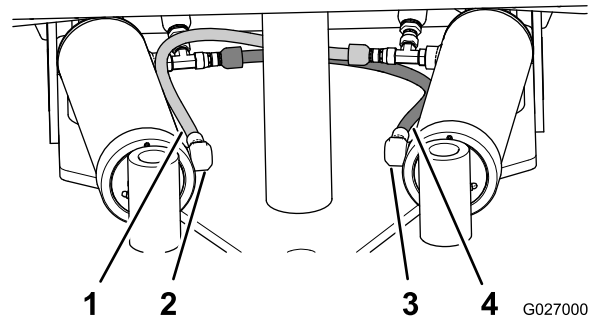

Figure 17
6. Connect the free end of the cross-connect hose (1/4 x 20 inch) from the T-fitting in the left pivot cylinder to the retract port of the right pivot cylinder (Figure 17) and tighten the hose fitting at the port to 31 to 39 N-m (23 to 29 ft-lb).
7. Connect the free end of the hose (1/4 x 20 inch) from the T-fitting in the right pivot cylinder to the retract port of the left pivot cylinder (Figure 17) and tighten the hose fitting at the port to 31 to 39 N-m (23 to 29 ft-lb).